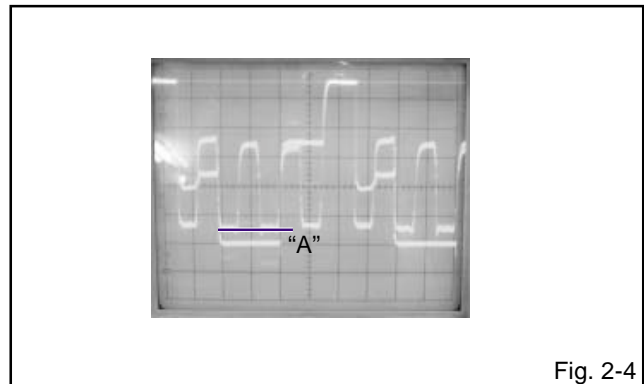

Fig. 2-4
5. Press the VOL. UP/DOWN button on the remote control until the section "A" becomes as straight line. (**Refer to Fig. 2-4**)